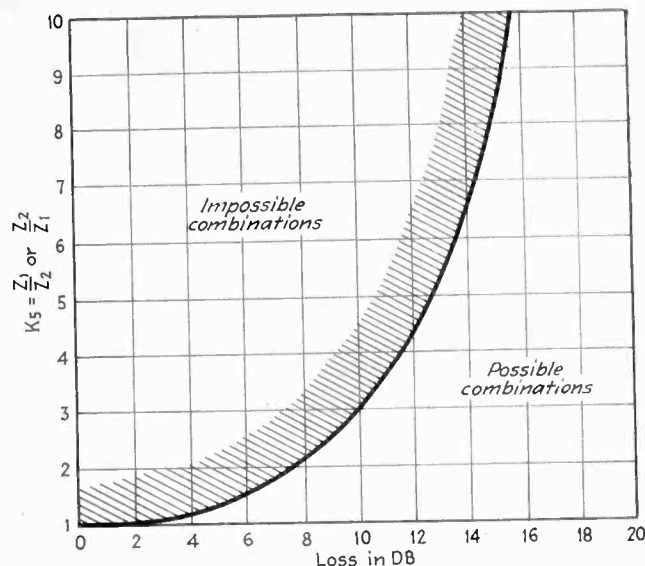

Fig. 3—Loss as a function of the terminal impedances
words, the ratio of the larger terminal impedance of the pad to the smaller impedance cannot be greater than a quantity (K_5 in equation (13)) which depends upon the loss. Values of K_5 for various values of the loss in *db* are given in Table I. The limiting values of the ratios are plotted in Fig. 3.
and that the pad so designed is to have a loss of 10 *db*. First, referring to Fig. 3 or Table I, we find it is pos-